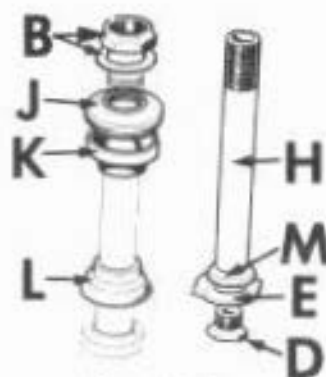

Fig. 45-1
- 5) Remove the fork stem retaining bolt "D" Fig. 44-3 by first bending back the top of the lock washer "E" Fig. 44-3 then remove the head lock nut and its washer. See "B" Fig. 45-1 on page 45.
- 7) The fork stem "H" Fig. 45-1 can now be removed by unscrewing the screwed race "J" Fig. 45-1. The loose ball bearings (5/32") will fall out of the bottom frame cup "L" Fig. 45-1 and can be removed from the top frame cup "K" Fig. 45-1. These should be replaced (24 balls to each cup), when servicing the forks.
Note "A" Before refitting the forks check the bearing surfaces of the parts J,K,L and M, see Fig. 45-1. These parts should all have smooth bearing surfaces and if worn be replaced. The frame cups "K" and "L" Fig. 45-1 can be removed using a punch and hammer - when refitting them use a hardwood block.
Note "B" Before refitting the forks reversing the removal procedure, pack the top and bottom frame cups "K" and "L" Fig. 45-1 with general purpose grease and place the ball bearings in the grease.